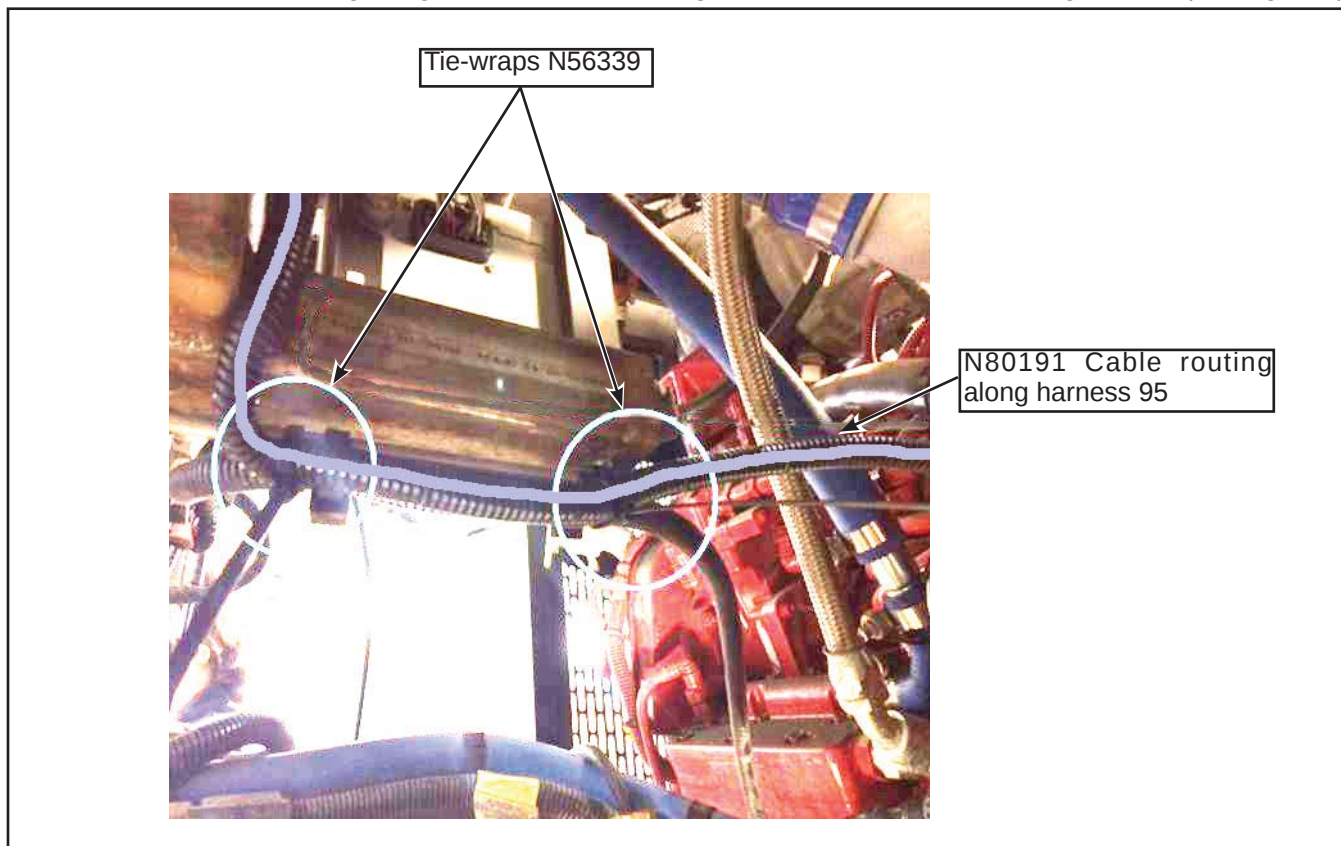

Figure 9 - Cable Routing Along Harness 95
- 1.10. Continue cable routing along harness 64 until it merges with harness 95 near the engine ECM (see Figure 9).